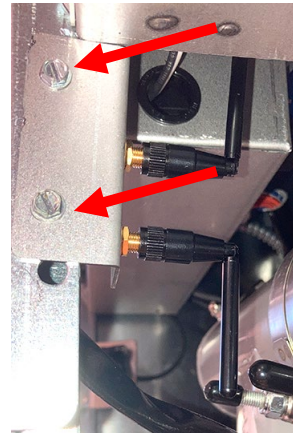

Figure 7
7. Attach the bracket to the brace as shown with two (2) drill point screws (see Figure 7).